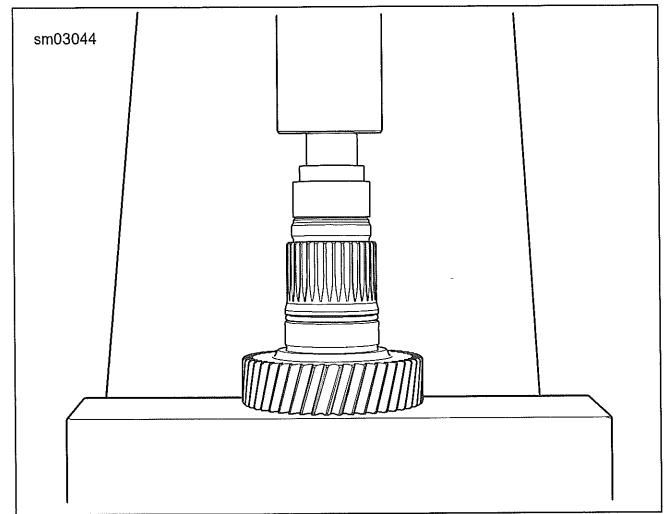

Figure 5-71. Pressing in Seal
5. See Figure 5-71. Install mainshaft seal with garter spring side down.